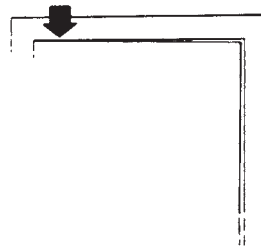

Figure 13.4 Is the door binding?
- Is the door binding? Frames that are out of plumb are frequently the cause of faulty operation of locksets and binding of bolts in the strike (Fig. 13.4).